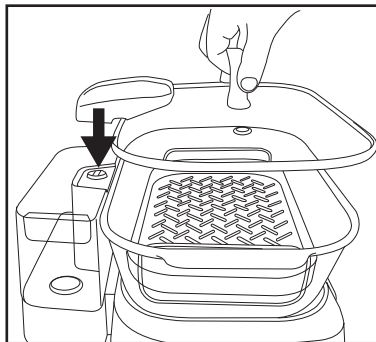

fig.1
5. Add food directly to the tray, then place the glass lid on the dish (ensuring the steam tower cover sits correctly over the steaming pipe (see fig.1)